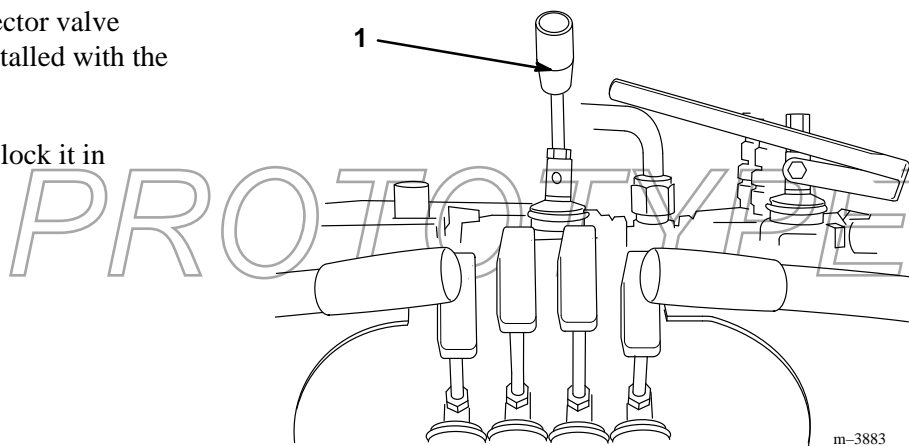

Figure 1
1. Thread lever into the pump selector valve (Fig. 1) The lever should be installed with the bend toward the operator.